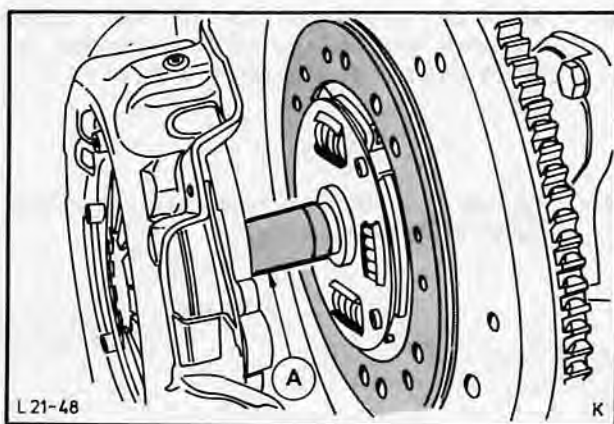

Fig. 61. Centre clutch disc and pressure plate
48. Position clutch disc using Special Tool 21-080, Fig. 61. Place pressure plate on dowels and torque as specified in Technical Data.